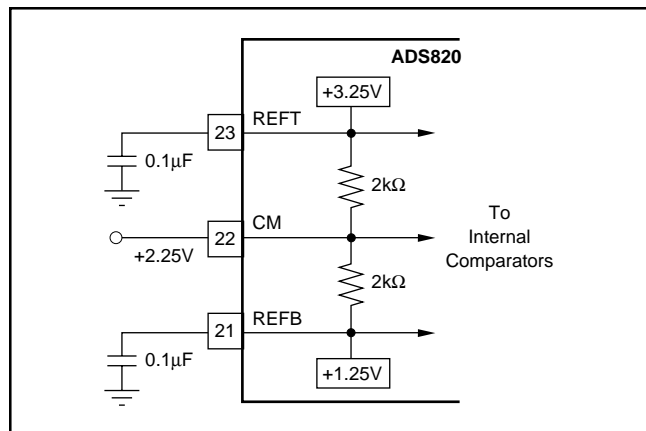

FIGURE 3. Internal Reference Structure.
The analog input of the ADS820 can be configured in various ways and driven with different circuits, depending on the nature of the signal and the level of performance desired. The ADS820 has an internal reference that sets the full-scale input range of the A/D converter. The differential input range has each input centered around the common-mode of +2.25V, with each of the two inputs having a full-scale range of +1.25V to +3.25V. Since each input is 2Vp-p and 180° out-of-phase with the other, a 4V differential input signal to the quantizer results. The positive full-scale reference (REFT) and the negative full-scale reference (REFB) are brought out for external bypassing, as shown in Figure 3. In addition, the common-mode (CM) voltage may be used as a reference to provide the appropriate offset for the driving circuitry. However, care must be taken not to appreciably load this reference node. For more information regarding external references, single-ended inputs, and ADS820 drive circuits, refer to the applications section.